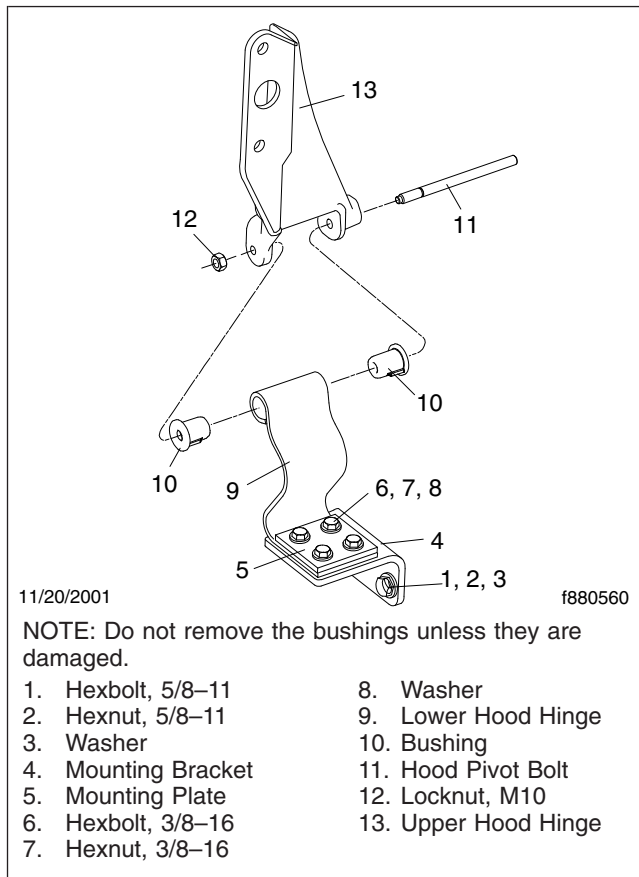

Fig. 5, Hood Pivot Bolt Installation (vehicles with an engine manufactured through 2006)
11. Using a T-40 Torx® screwdriver, remove the hood-hinge pivot bolts; see Fig. 5.
2. Align the holes of the hood hinge brackets with those in the lower hood hinges. Using a T-40 Torx screwdriver, install the hood-pivot bolts from the inboard side. Install the locknuts, and tighten them 25 lbf·ft (34 N·m); see Fig. 5.